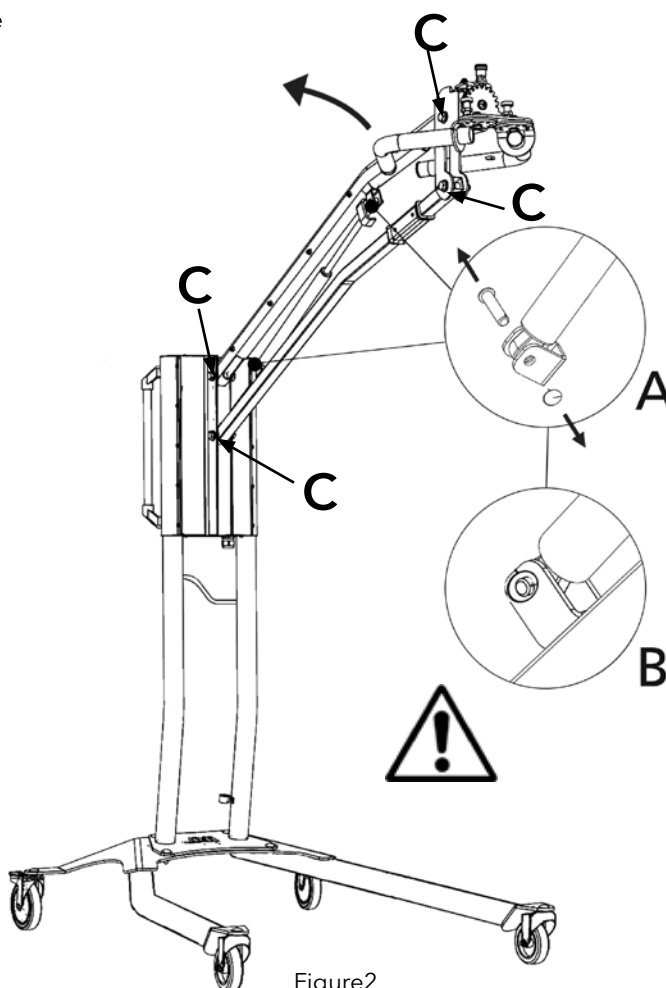

Figure2
If the mobile dryer does not park in highest or lowest position but falls or raises slightly by itself, tighten the 4 bolts indicated with the letter "C" in fig 2.
2. Place the parallel arm in the farthest upright position (fig 2).
4. Remove the locking rings and the two pins. Move the gas spring slightly upwards/forward and then remove it (fig 2).